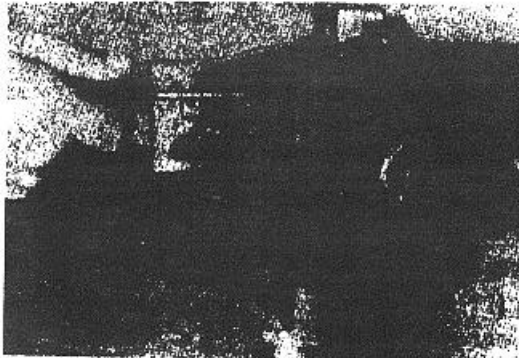

Figure 4-72 Tightening front cover
16. Assemble the capscrews and tighten front cover in position. Always use flat washers next to aluminum. Fig. 4-72.